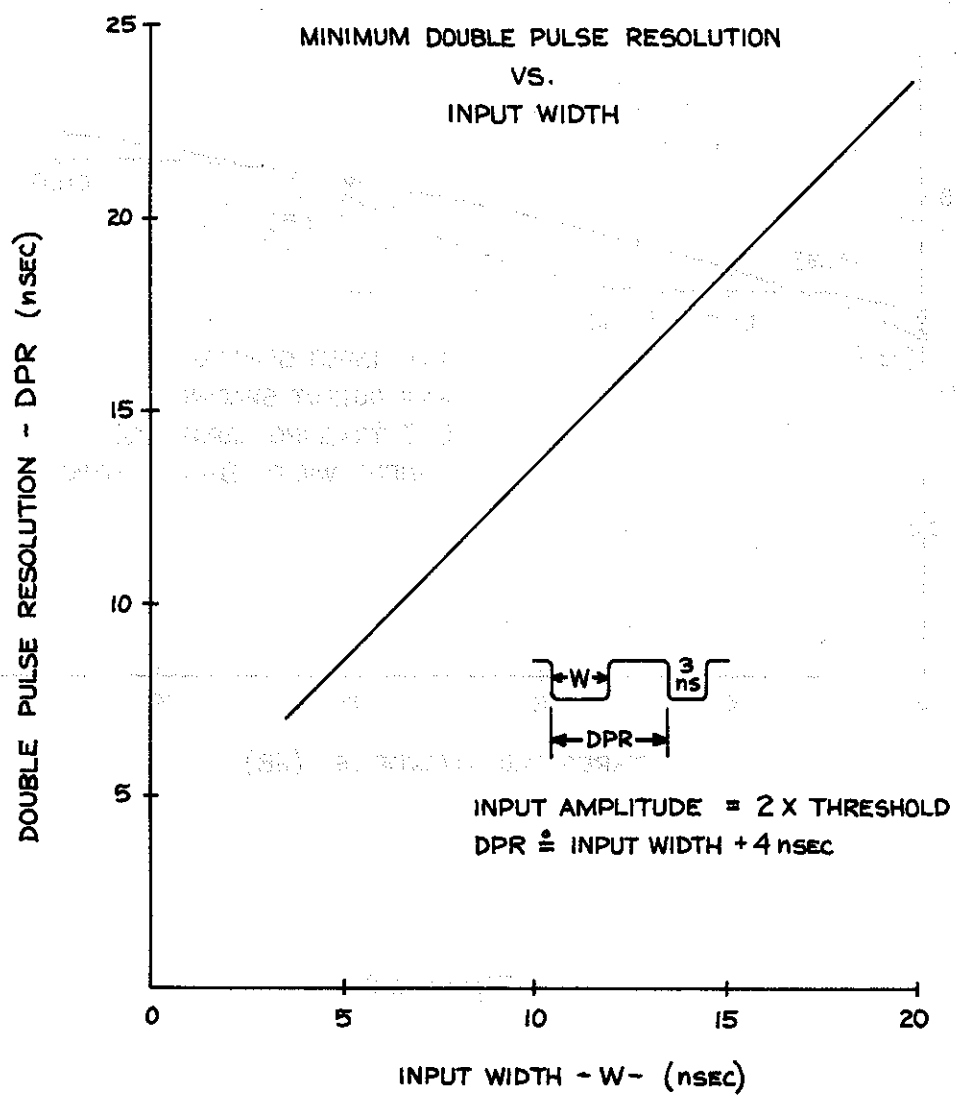

Figure 1.9
**Double-Pulse Resolution vs Input Width:** The DPR of a discriminator is a strong function of the duration of the first pulse in an input pair, since this width affects the recovery time allowed the discriminator input stage between the two pulses. If the double-pulse resolution is not linear with input width, it may mean that the discriminator will not respond to the second pulse following an overload photomultiplier signal. The double-pulse resolution vs input width of the 623 series discriminators is shown in Figure 1.9. This figure demonstrates that the discriminator's response is linear with input width and has a fixed recovery time of 4 nsec following an input of any duration.